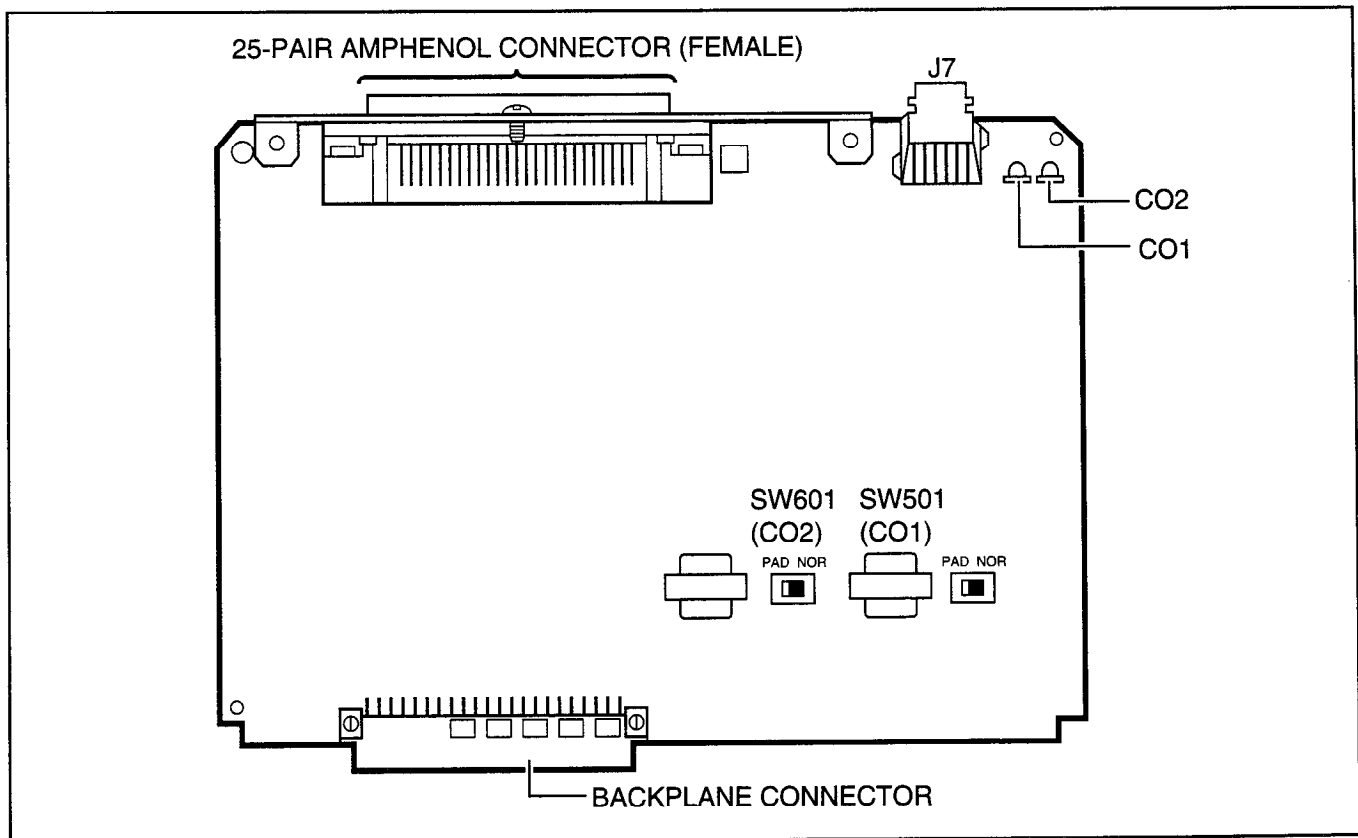

FIGURE 5-21
13.02 The KCDU is shown in Figure 5-21, and its controls, connectors, and indicators are described in Table 5-H.